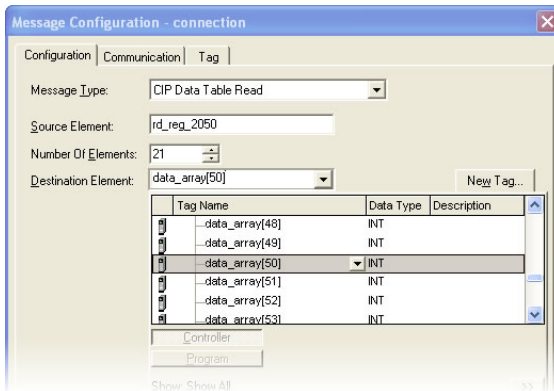

Figure 98: Selecting the Destination Element
- iv) For the Destination Element, either directly type "data_array[50]", or select element #50 in the data_array tag via the drop-down box (refer to Figure 98). The destination could be any offset in the data_array tag, as long as the offset plus the Number Of Elements (21) does not exceed the tag's defined size (73).